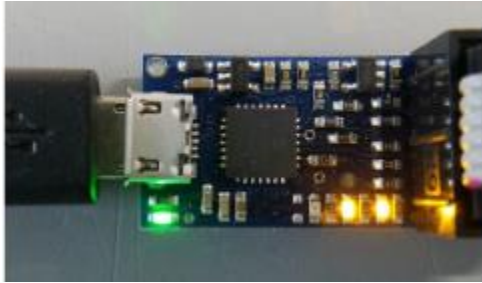

Figure 1 Pololu Programmer LEDs
- 4.Attach the USB cable from the computer to the USB connector of the Pololu programming device. See Figure 1.
6. Verify programmer LEDs are illuminated as per Figure 1 to validate that 5v power is being applied by the programmer. You can now safely close the Pololu USB programming software configuration program.
7. Attach the 6-pin ribbon cable from the programmer to the ICSP connector on the SD DDP PCB. The red strip on the ribbon designates Pin-1 of the connector. See Figure 1 and 2 for details.